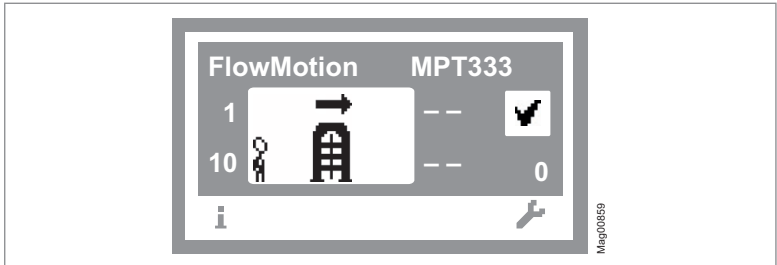

Fig. 2: Example "Operational View"
11. Press the left button «**+**» repeatedly until the operating view is displayed again. ↗ Page 13, Fig. 2.